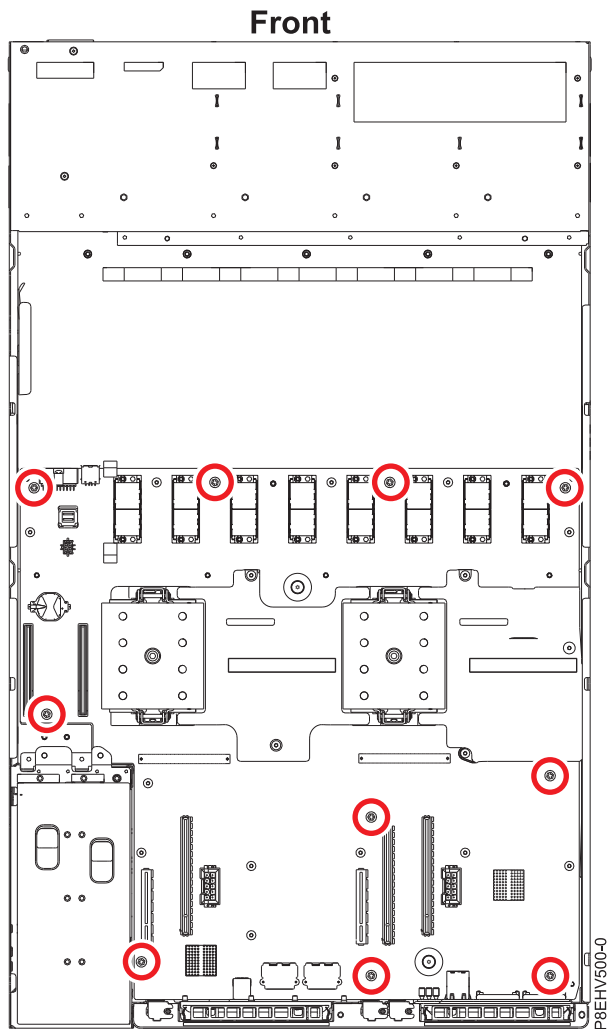

Figure 64. System backplane screw locations
11. Unscrew and remove 10 black hex screws (D) from the system backplane. The screw locations are shown in Figure 64 on page 65.